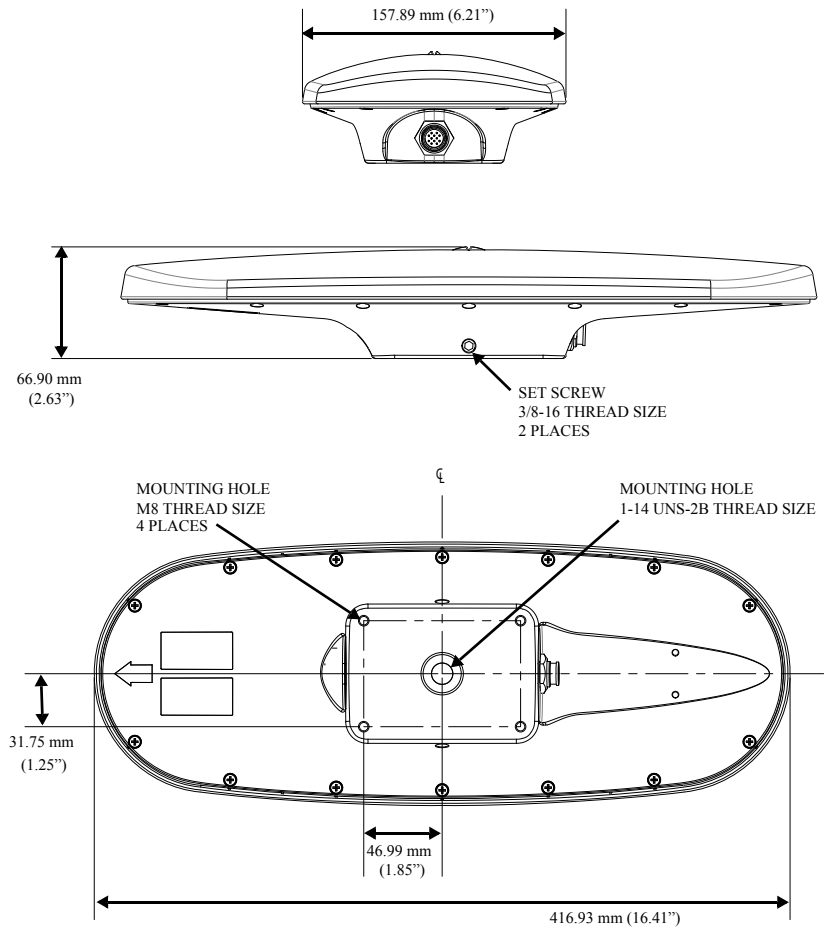

Figure 2-6: G1 dimensions
- Flush mount - The bottom of the G1 contains four M8 holes for flush mounting the unit to a flat surface (see Figure 2-6).
Figure 2-6 illustrates the physical dimensions of the G1.
- Use the set screws on the long sides of the base (see Figure 2-6) to secure the G1 in place (3/16" Allen wrench not included)